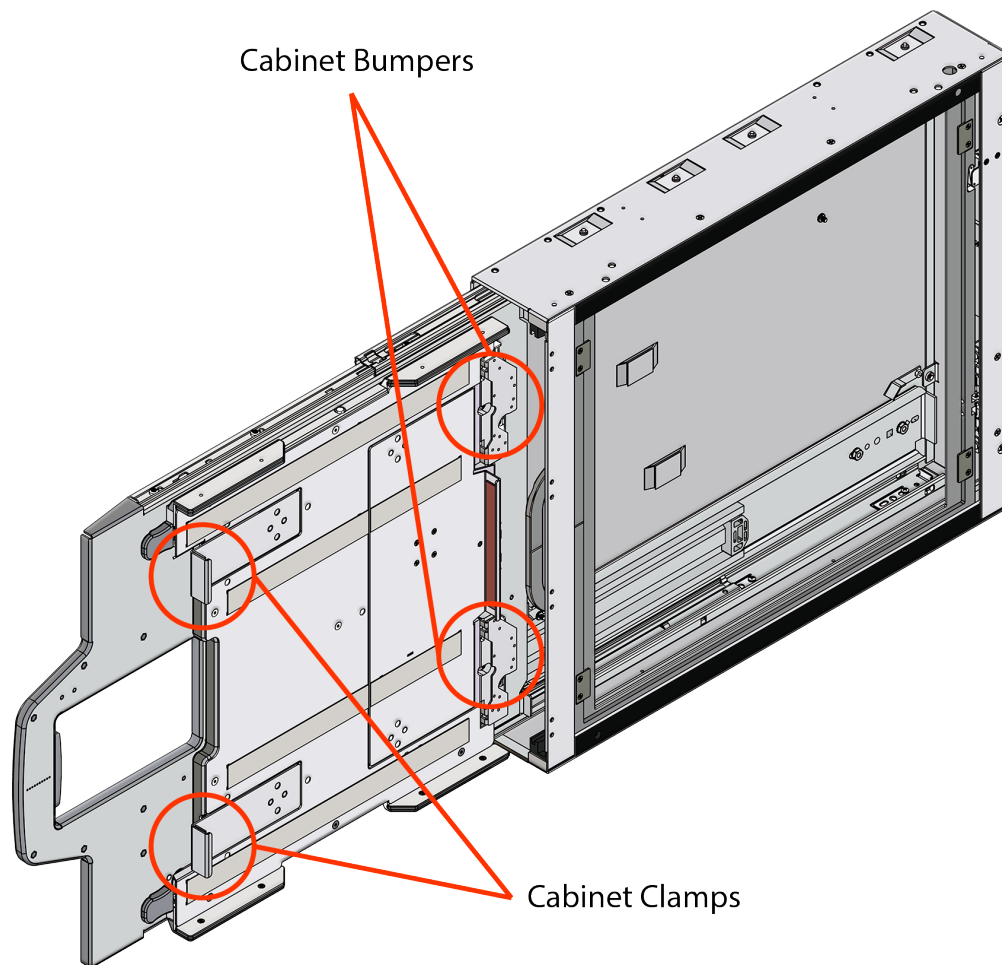

Figure 2-32: Grid Cabinet with Flex Detector Tray Clamps and Bumpers
2. Ensure it is secured with the cabinet clamps shown in *"Figure 2-32: Grid Cabinet with Flex Detector Tray Clamps and Bumpers" on the next page*.